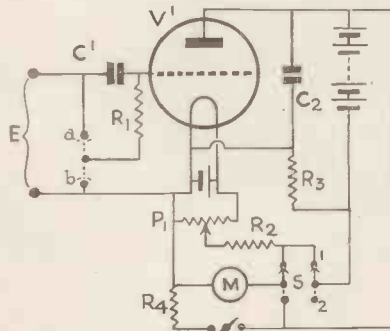

Fig. 6. Grid rectifying triode voltmeter
In Fig. 6, a switch (S) is provided so that the same meter may be used for measuring the anode battery voltage. It is not necessary that the actual value should be known, so it is not necessary (unless desired) to calibrate M with R_3 as a voltmeter. When initially calibrating, it is only necessary to note the reading on M with the switch in position 2, and to adhere to this value of anode voltage whenever the instrument is to be used for important measurements.